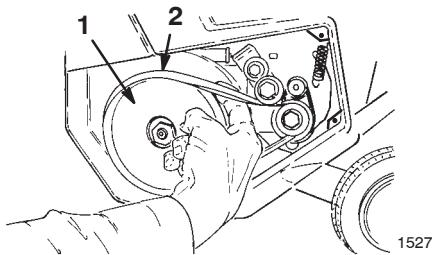

Figure 19
3. Rotate the rotor with your left hand while sliding the belt off the large pulley with your right hand (Fig. 19).
- Remove the large belt by slowly sliding it off the small pulley (Fig. 19). Refer to steps 2 and 3 of Replacing the Large Belt on page 10.